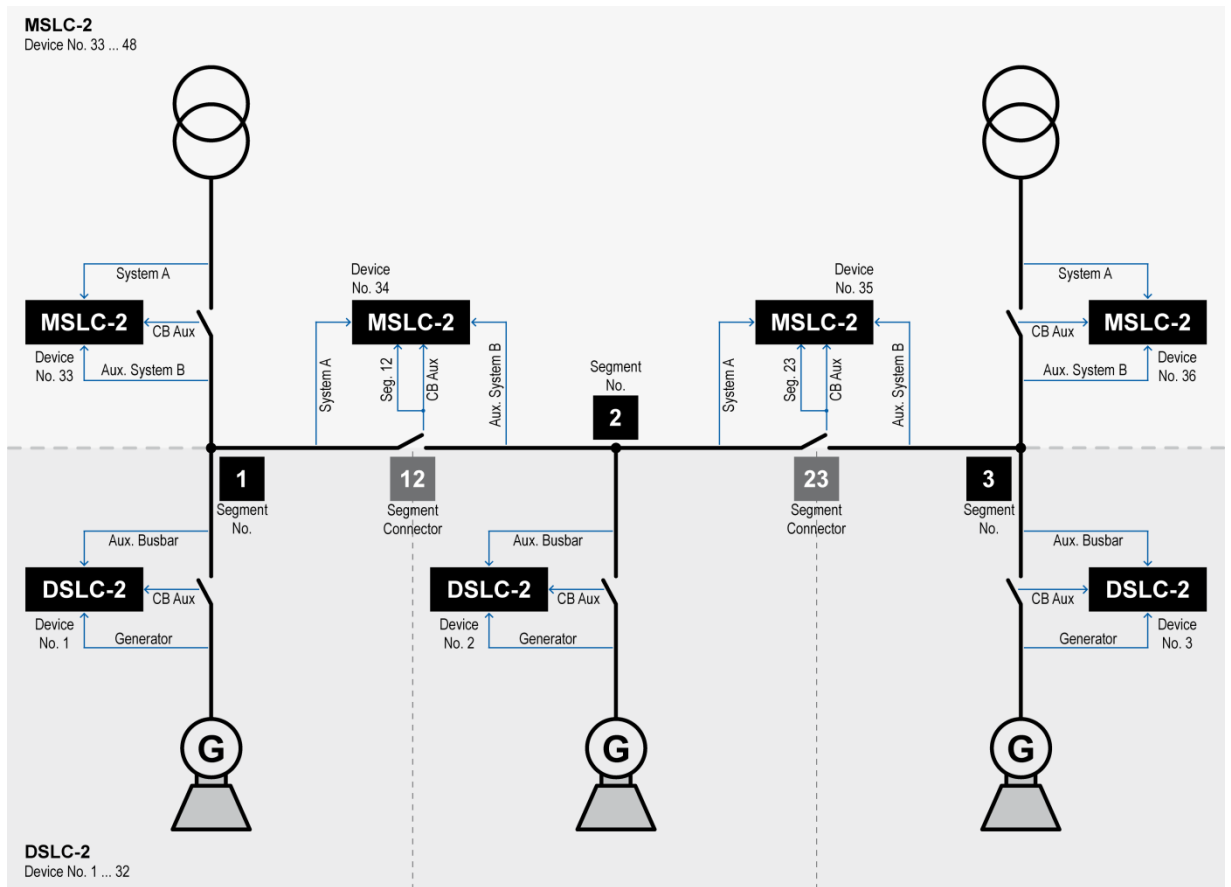

Figure 3-42: Example of an online diagram with segment numbers and segment connector feedbacks
2. Draw the measurement systems arrows between unit and bars (refer to Figure 3-42).
3. Draw the segment numbers into your online diagram (refer to Figure 3-42).
4. Draw the device numbers of your units in your online diagram (refer to Figure 3-42).
5. Draw the “CB Aux” feedbacks and segment connection feedbacks in your online diagram (refer to Figure 3-42).